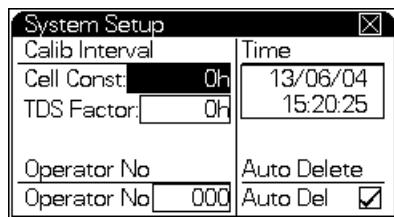

Figure 16 The System Setup screen
- 4 The **System Setup** screen appears on the display. See Figure 16.
- a Use the arrow keys to highlight the Time field shown in Figure 16 on page 29 and press [**Setup**].